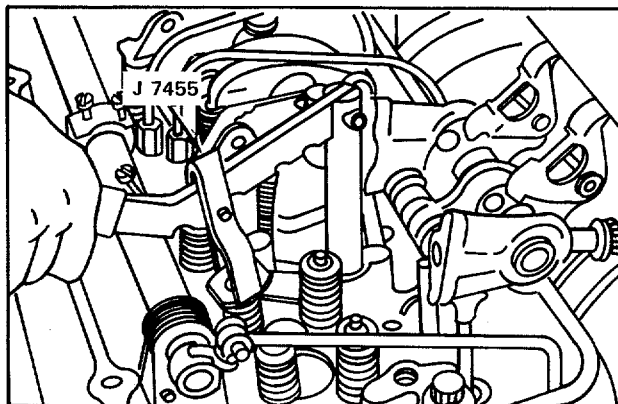

Figure 2. Removing Valve Spring Using Tool J 7455
6. Thread the valve spring compressor adapter tool J 7455-4 into one of the rocker arm bracket boltholes in the cylinder head (Fig. 2). Then compress the spring and remove the two-piece valve lock.